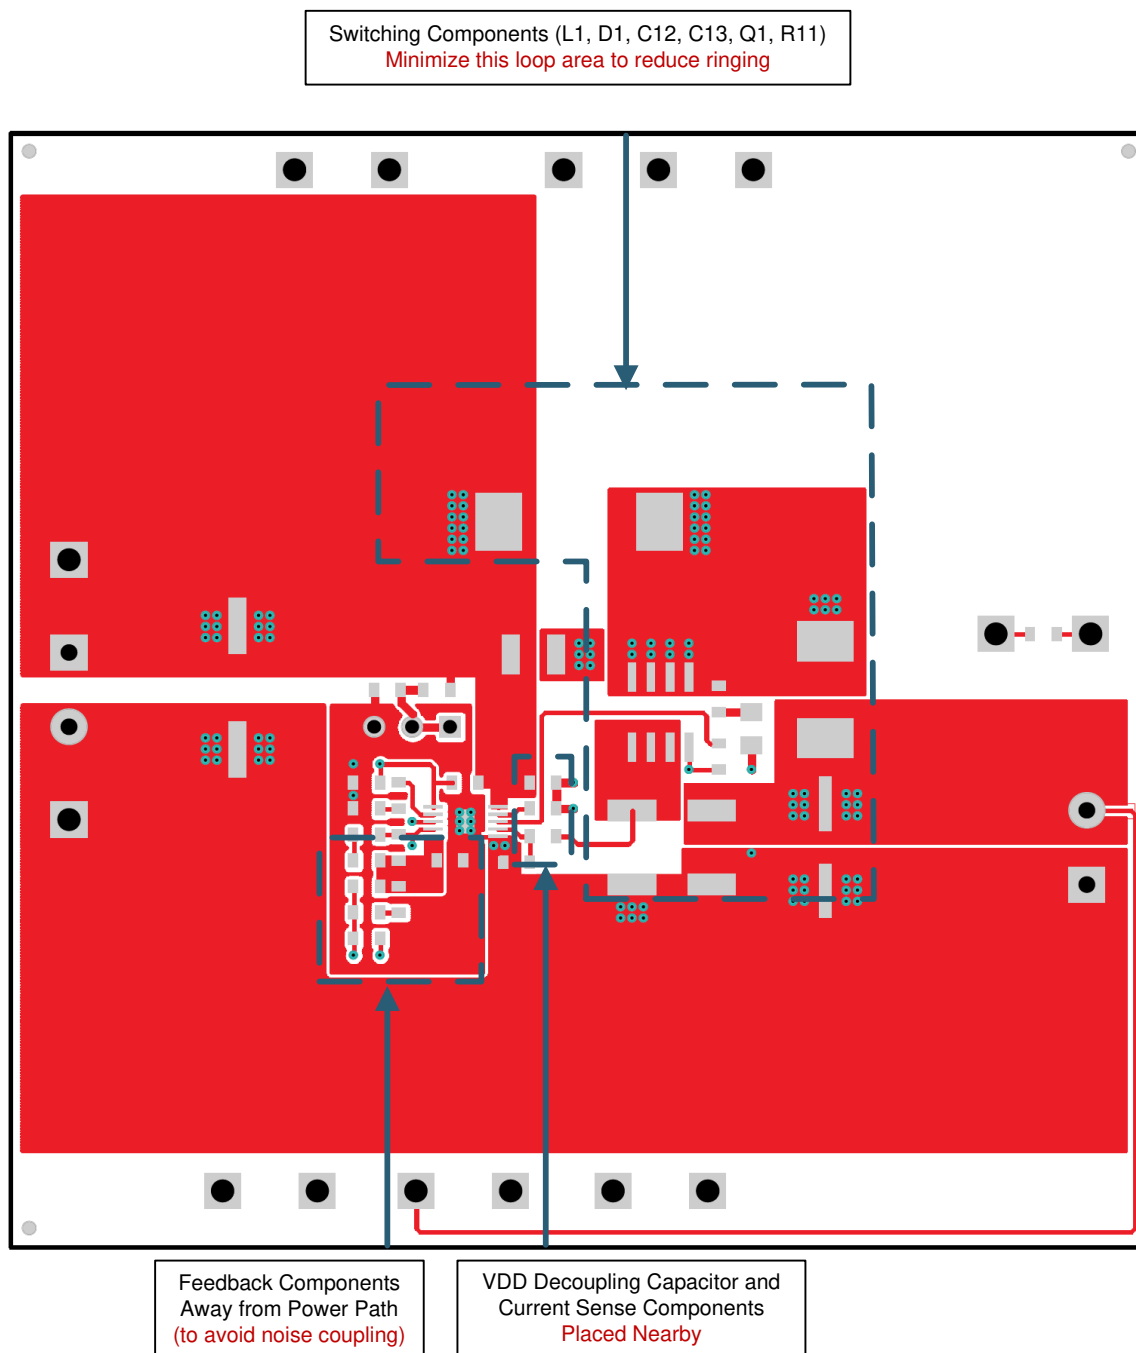

图 10-1. TPS40210 Top Layer
- All other analog components should be kept close to the IC such as those connected to RC, SS, COMP, FB, and ISNS. It is recommend to isolate this ground return used for these components to create a "quiet" ground minimizing any noise as shown in 图 10-1.